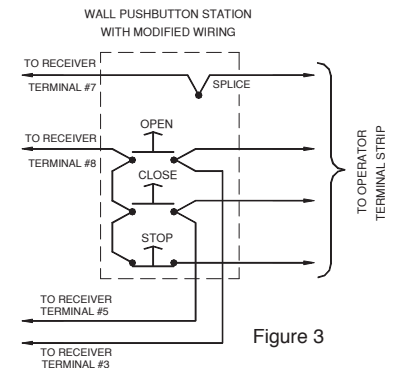
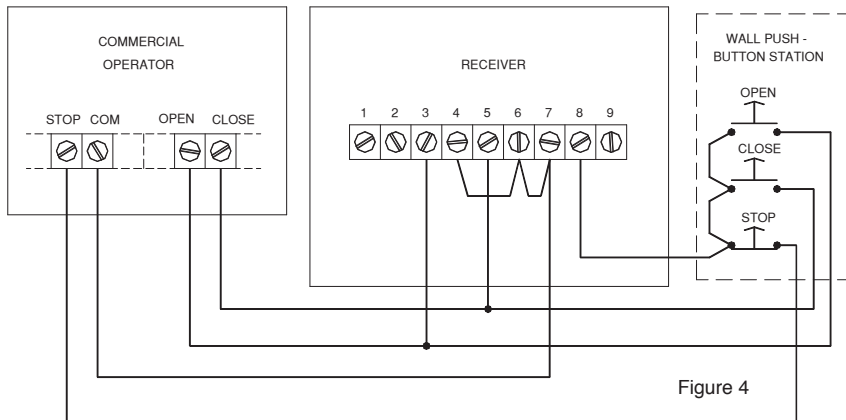

Figure 3
Figure 4
Typical 4-wire 3-button stations are wired as shown in Figure 3. Number 18 gauge wire or heavier must be used for wiring the control stations and the receiver to the door operator. Smaller gauge wire may cause operational problems, especially when multiple 3-button stations are used. For typical installations the receiver is mounted near the door operator, away from any high voltage conduits or steel support beams. For wiring, follow the steps below and refer to Figure 4.
3. Connect the following wires from the receiver to the operator 3-button COMMON (as shown in Figure 4):
Check the wire & connections in the STOP circuit. Refer to Figure 4.